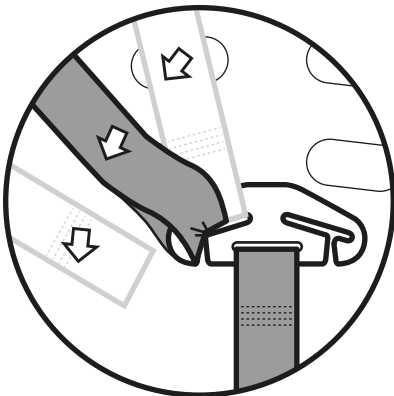

Figure 4
**Step 5:** The shoulder harness straps go directly from the shoulder slot holes to the spreader plate. Thread each shoulder harness strap back onto the metal spreader plate through the gate (see Figure 4).